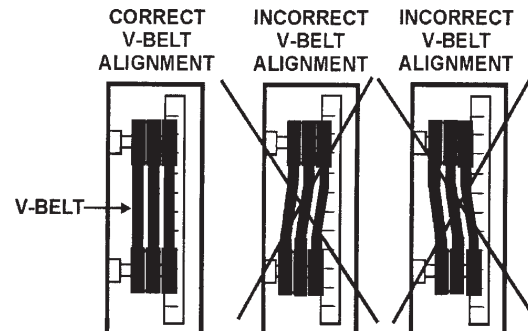

Figure 9. Pulley Alignment
2. Check uniform parallelism (Figure 9) of V-belt and pulley (sheaves). Use a straight-edge or machinist's square against both pulleys and adjust both pulleys until equally aligned.